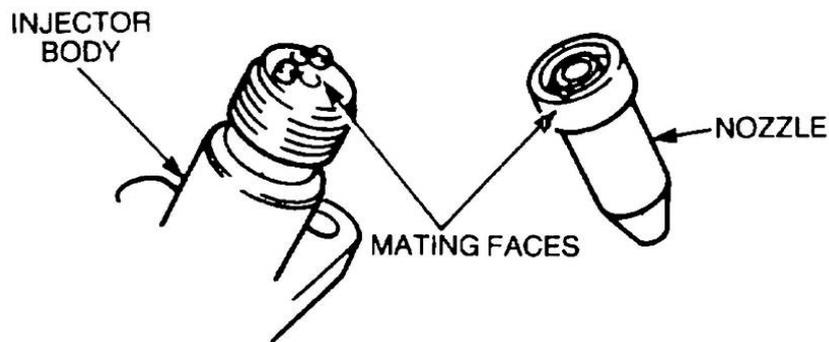

Figure 144 Inspection of the Injector Mating Faces
- f. Inspect the mating faces of the nozzle and the body, these should be smooth and free of scratches or scores (Figure 144). Replace the injector assembly if these components are faulty.